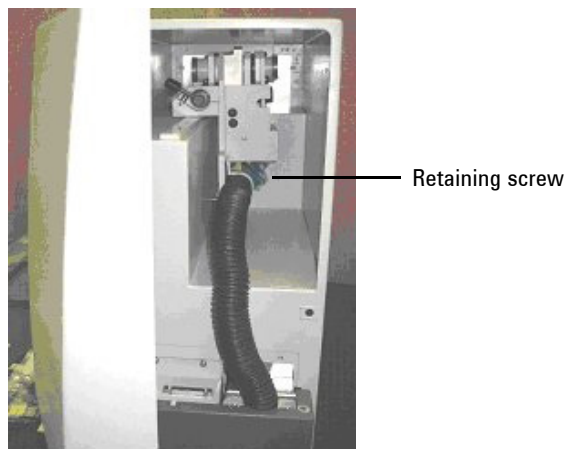

Figure 3. Location of the retaining screw
- 3 Undo the retaining screw (see Figure 3), then remove the GTA workhead from its storage position in the power supply compartment.